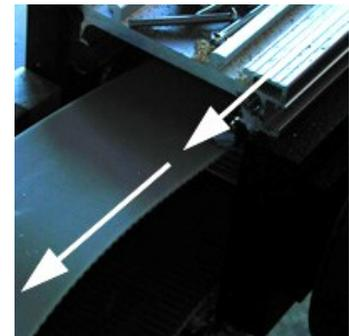

Fig. 14 — Remove the old belt.
8. Remove the old belt by pulling it out of the TigerTurbo at the motor end (Fig. 14) or at the idle end of the beam.